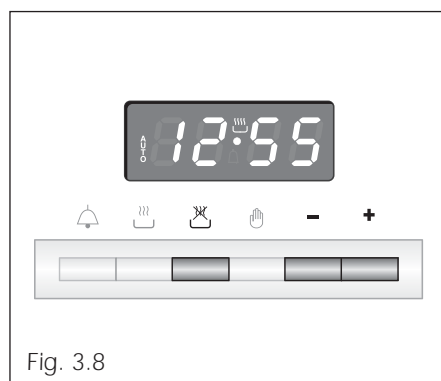

Fig. 3.8
2. Set the end of the cooking time by pushing the  button and the  button to advance, or  to go backwards if you have passed the desired time (Fig. 3.8).